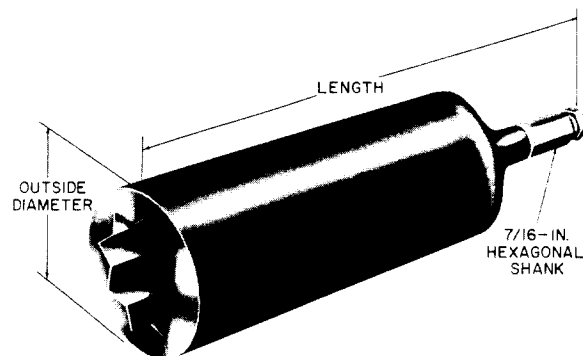

Fig. 4—B Socket
2.05 The B socket has 8 points (Fig. 4) and a 7/16-inch hexagonal shank to fit the chuck of the B or C impact wrench.